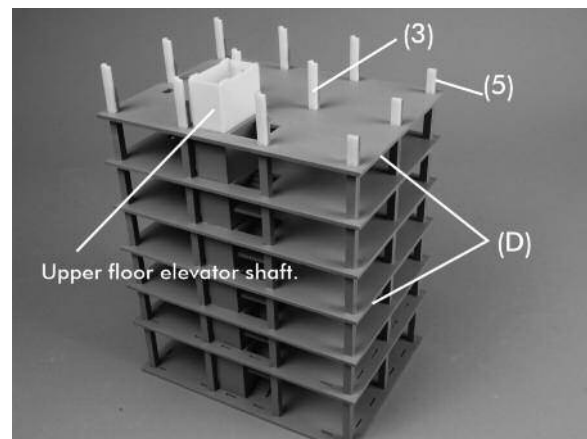

Figure 14
Repeat this process three more times. See Figure 14.
Install parts (3) to nine of the columns. They will stick up beyond the top of the column. Install parts (5) to the three remaining columns. They will stick up beyond the top of the long column slightly and need to be trimmed or filed flush. See Figure 14.